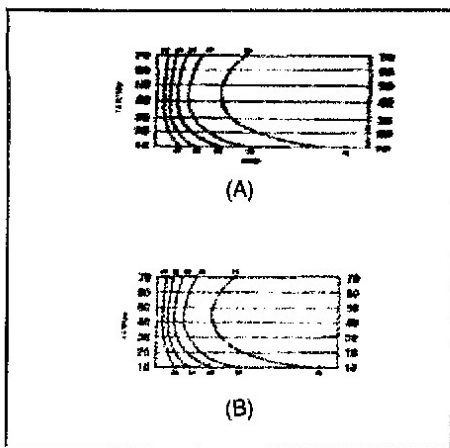

Fig 5—A comparison of picture sections made with the Sueker interface (A) and the simple interface (B).
I have NLQ condensed-mode programs for use with the Sueker² interface and the simple clipper circuit of Fig 4. With the same resolution parameters, the simple interface gives better readability of the fine print on the maps than does the Sueker interface (less horizontal smear). A comparison is shown in Fig 5. (Table 1 shows coding changes to the original Sueker pro-
- On p 20, Fig 5, the 57- Ω resistor should be labeled 50- Ω .